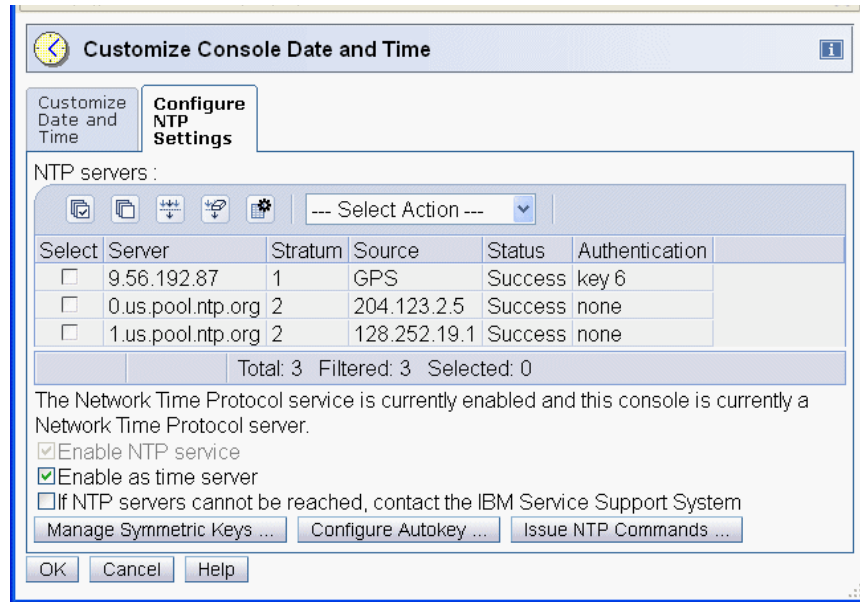

Figure 1-88 HMC NTP server example
5. Set up the HMC to act as server. Follow the steps given in 1.2.2, “Configuring an NTP server on the HMC” on page 7. If there is another HMC that is planned to additionally provide the NTP server function, perform the same steps for that HMC. An example is shown in Figure 1-88.